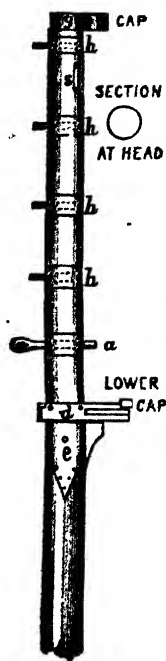

FIG. 2.
The small puttock-shrouds for the top-masts are secured, through the ends of crosstrees, to a necklace of iron under the lower cap. They are, however, very slight. The main-stay is a rope leading to the head of the fore-mast; and there is a sort of back-stay which leads to the foot of the fore-mast. The fore-stay runs from the head of the fore-mast to the head of the vessel, and serves as a medium for carrying the fore-stay-sail where one is carried. The gear for the sails is the same as already described under the head of spanker and try-sail gear. Through the eyes, shown in the figure (Fig. 2), as secured to the mast-head, are passed the peak and throat-halyards, for hauling up or lowering the peak. Through a block half-way down the peak, and another at the throat of the gaff, are run the peak and throat-brails; and through a block on the mast, about two-thirds down, run the foot-brails. Brails are used for the purpose of taking in the sail; they are all fast to belaying-pins at the foot of the mast. Two or three sets of reef-points are on both main and fore-sail. Out-hauls and down-hauls are also provided, as in the case of a spanker.
*Worming* is filling up the channels between the strands of a rope, either to improve its appearance or to fit it for serving or parcelling (*a*, Fig. 2).
*Parcelling* is covering the rope with strips of old canvas soaked in tar to keep out the wet. Follow the "lay" of the strands from left to right (*d*, Fig. 2); then cover over or *serve* the parcelling with spun-yarn (*b*, Fig. 2), going against the lay, or from right to left. "Service" is also put on without parcelling, over a plain rope or over worming.
*Marling* is used instead of service to keep parcelling in its place. It is a kind of "chain-stitch" as known to ladies (*c*, Fig. 2). Work it towards you.